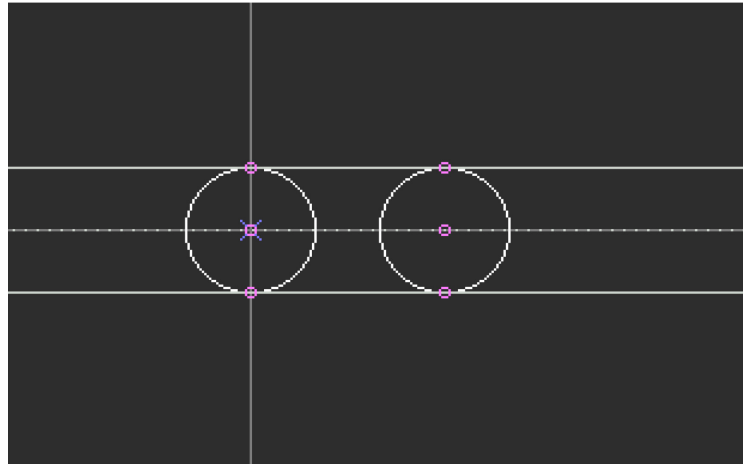

Figure 1.2.9
(13) After all intercrossing points have been changed (As figure 1.2.9), click “change trace” on screen bottom in “Program” window, then the system prompts “Take a point between two terminals of auxiliary line?”
(14) Change all traces of the curve in accordance with the requirements of the curve, and get the new curve as shown in the picture below.
(15) Press “ESC” key to terminate and return to “program” window; Click “display trace” on screen bottom and get the required curve.